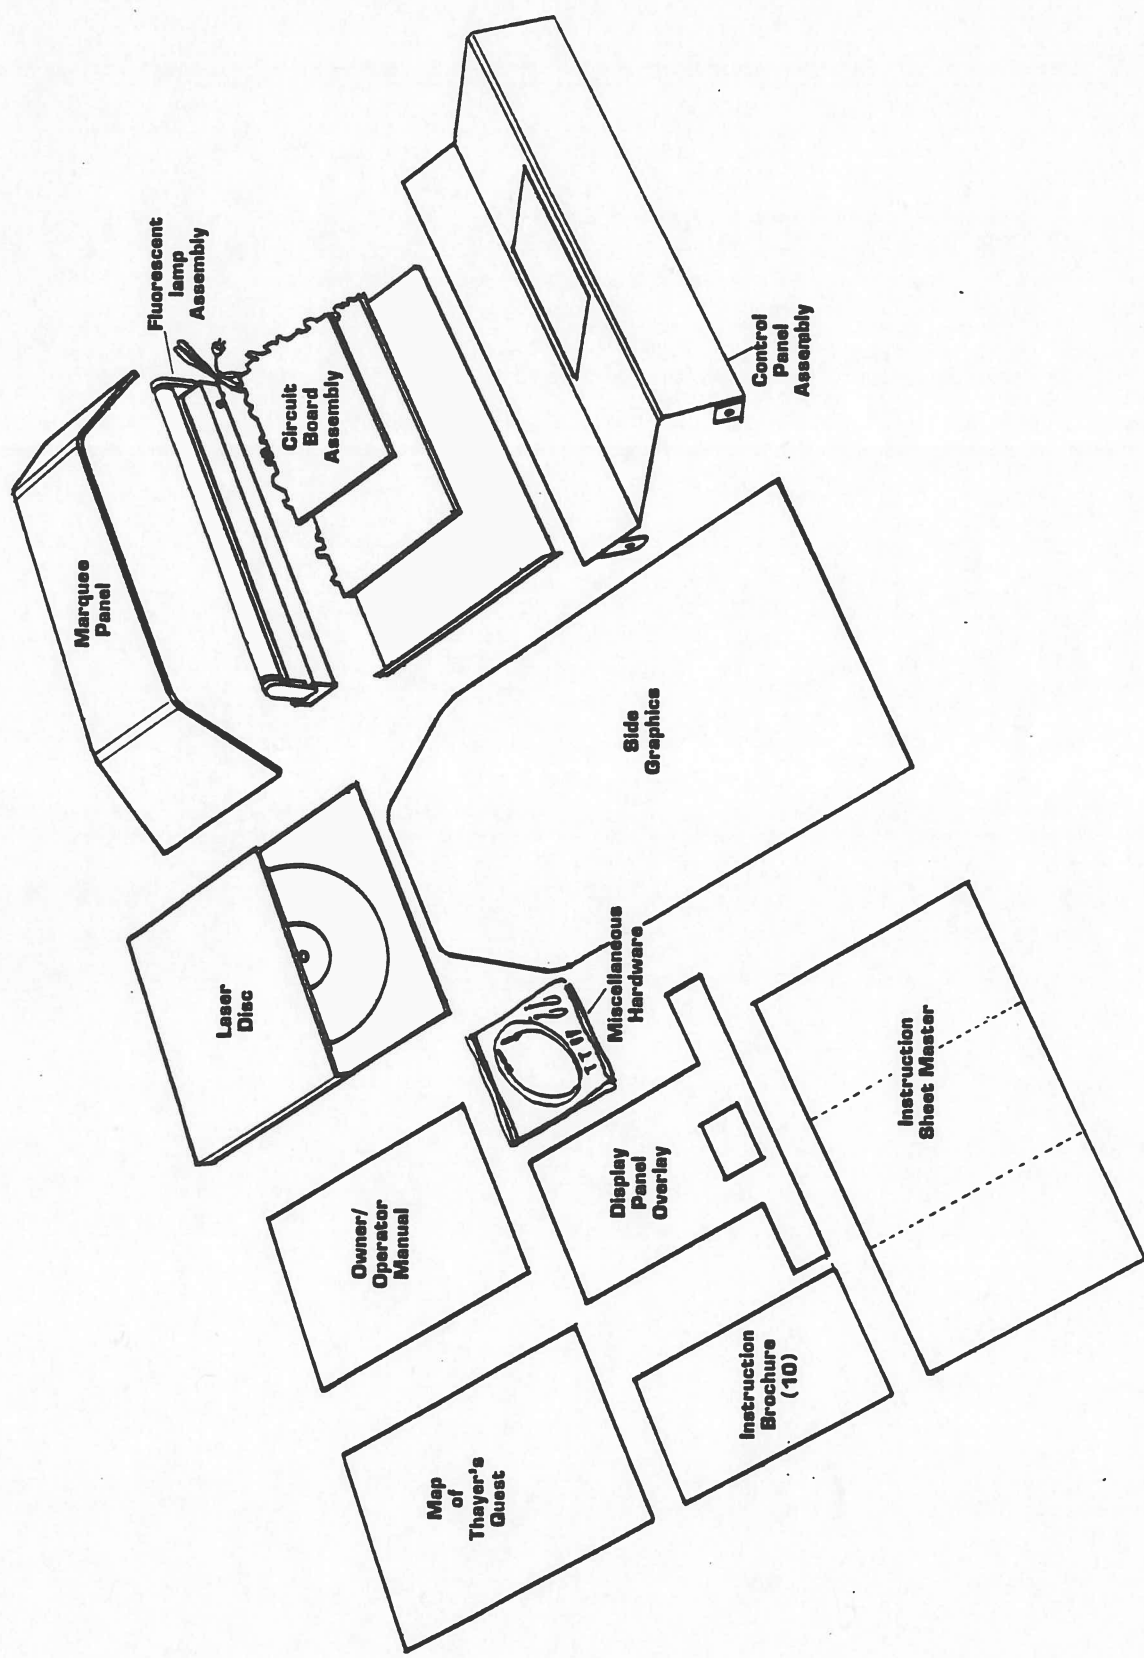

FIGURE 1
2. Carefully unpack and inspect the contents of the carton. The following items should be enclosed (Refer to Figure 1):